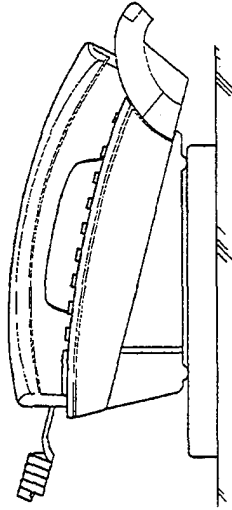

Figure 1-68 Installed Wall Mount Unit
8. When properly installed, the wall mounted Digital Multiline Terminal looks similar to the one shown in Figure 1-68 Installed Wall Mount Unit.